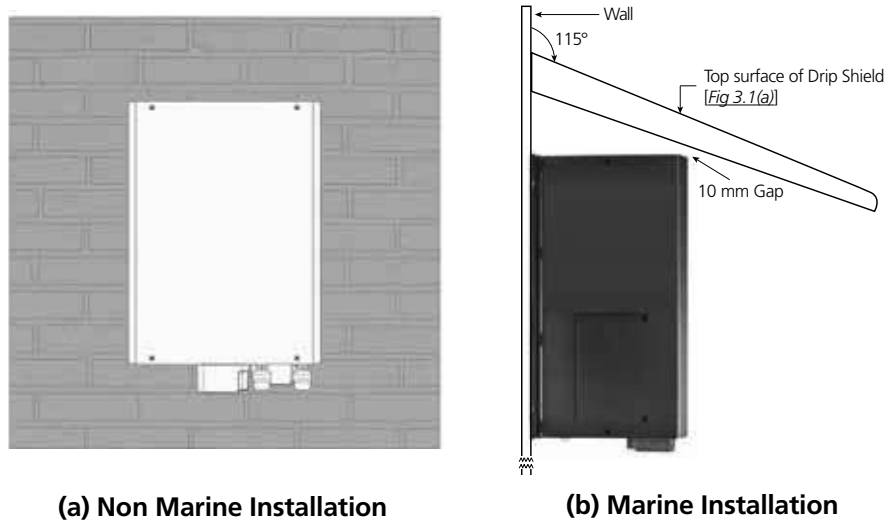

Fig 3.4 Mounting Arrangement 2: On Vertical Surface
- Mount vertically on a vertical surface, see Fig. 3.4. Protect against possibility of small objects or water entering the ventilation openings on the top. If necessary, install a Drip Shield [Fig 3.1(a)] at least 200mm from the top surface. Also, ensure there is no combustible material directly under the unit.